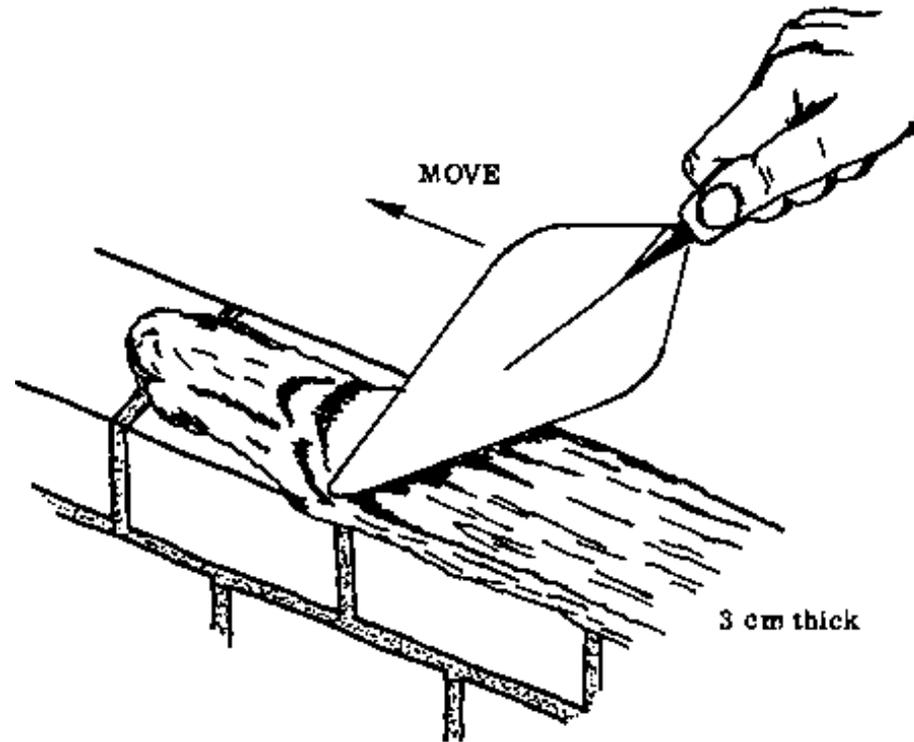

Fig. 2
**Place the mortar in the middle of the wall or the marked position of the first course and spread it out by a pushing movement with the back of your trowel, into a layer about 3 cm thick (Fig. 2).**